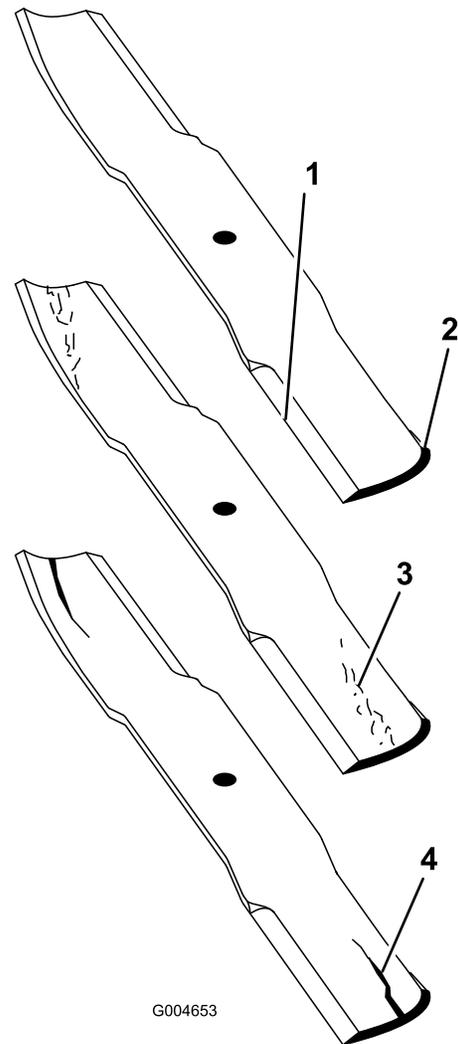

Figure 104
2. Examine the cutting ends of the blade carefully, especially where the flat and curved parts of the blade meet (Figure 104).
Note: Because sand and abrasive material can wear away the metal that connects the flat and curved parts of the blade, check the blade before using the mower. If wear is noticed (Figure 104), replace the blade.